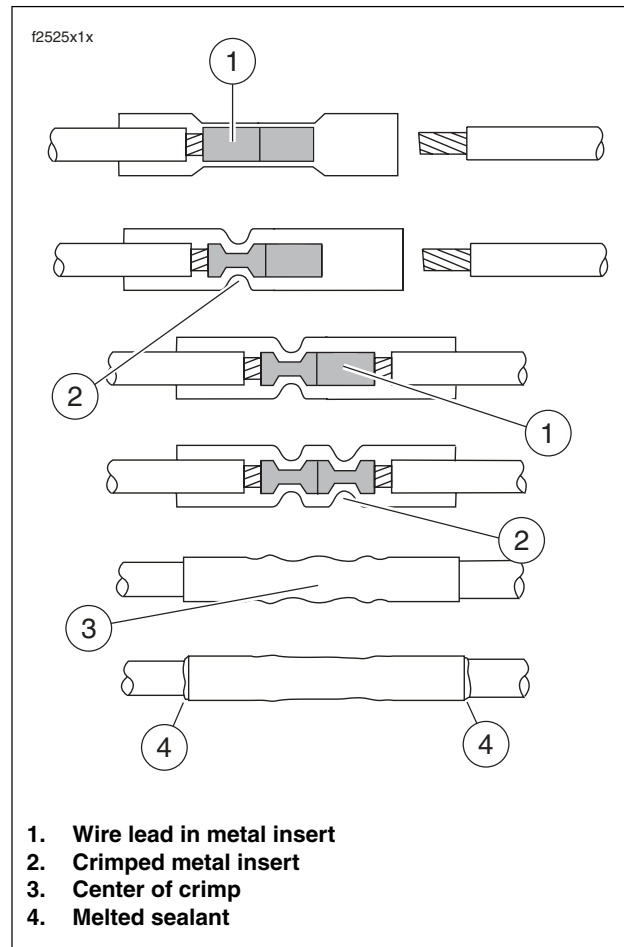

Figure B-16. Sealed Splice Connector
See Figure B-16. The connector is crimped twice - one side and then the other.
4. See Figure B-16. Feed the stripped end of a wire into the connector until the wire stops inside the metal insert (1).
5. Squeeze the handles tightly closed to crimp the lead in the insert (2). The tool automatically opens when the crimping is complete.
6. Slide the connector to the other half of the metal insert. Insert the stripped wire lead (1) until it stops, and crimp the lead in the insert (2).
See Figure B-16. Allow the splice to cool and inspect the seal. The insulation should appear smooth and cylindrical. Melted sealant will have extruded out the ends (4) of the insulation.